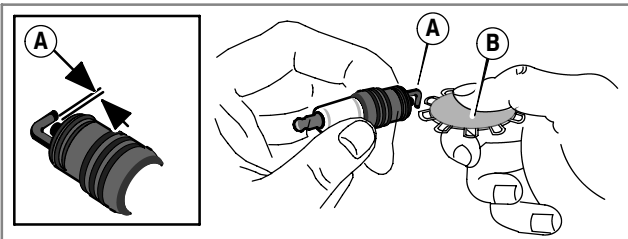

Figure 11
Replace the spark plug annually. Check the gap (A, Figure 11) with a wire gauge (B). If necessary, reset the gap. Install and tighten the spark plug to the recommended torque. For gap setting or torque, see the **Specifications** section.